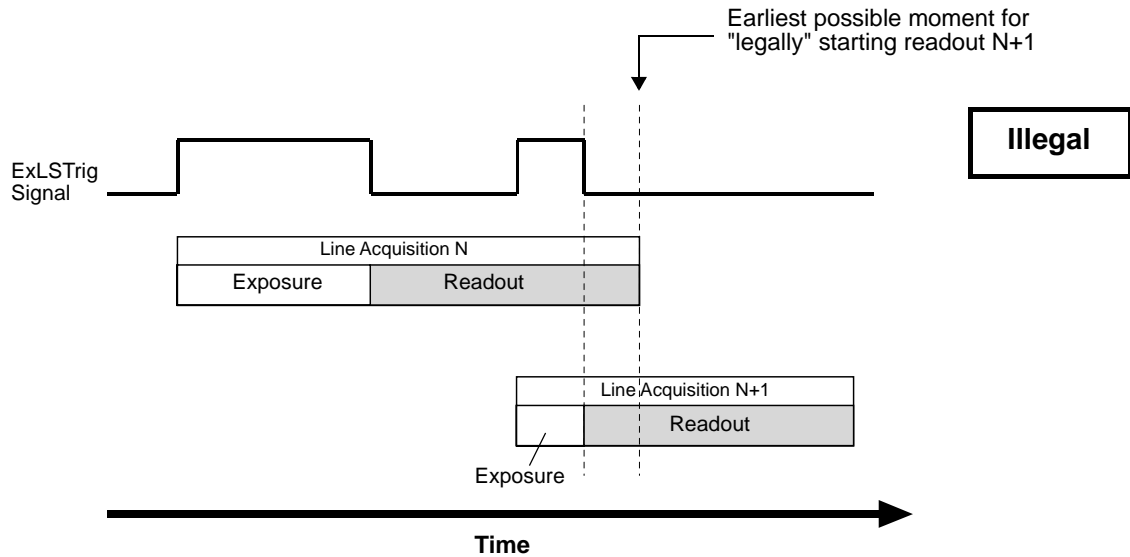
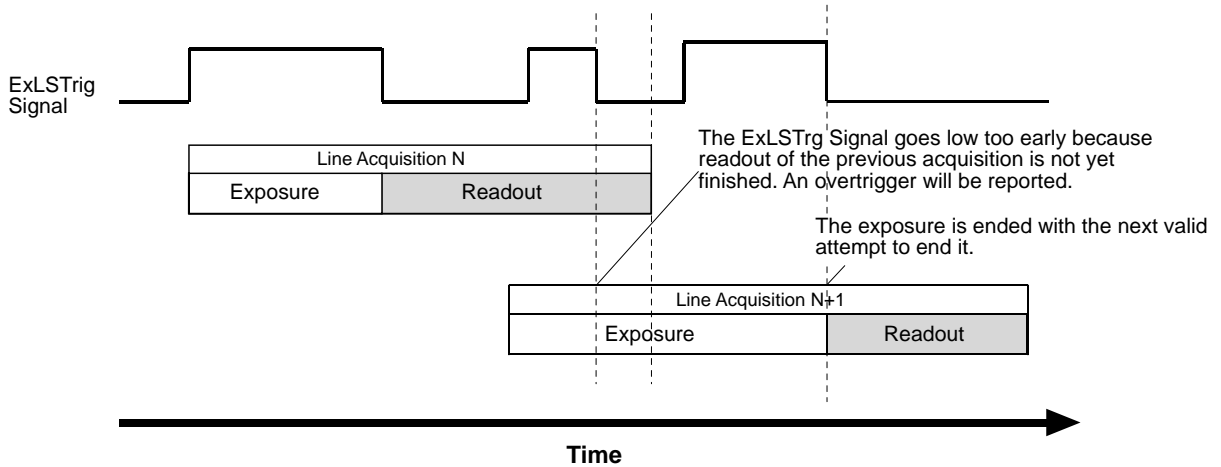

Fig. 43: Exposure N+1 Illegally Ends Before Readout of the Preceding Line Acquisition N Has Ended; Applies to Trigger Width Exposure Mode Only
Fig. 44: Extension of Exposure N+1 After the Illegal Attempt of Ending It Too Early; Applies to Trigger Width Exposure Mode Only
Certain attempts of triggering overlapped line acquisition are illegal and do not result in line acquisitions: When a line start trigger signal attempts an illegal line acquisition the trigger signal will be ignored and, accordingly, no line acquisition will be performed. In addition, the trigger signal will be reported as an overtrigger (see also Section 10.15 on page 209). Illegal triggering and impossible overlaps are shown in Fig. 42 on page 114 and Fig. 43 on page 115.
The exposure overhead (see Fig. 42 on page 114) is part of every exposure process. For simplicity, it is omitted from the other figures illustrating exposure and readout (see, for example, Fig. 43 on page 115).
- The line start trigger goes low to end the exposure for line acquisition N+1 before readout for acquisition N has ended (premature exposure end; see Fig. 43 on page 115). This would result in the illegal overlap of two readouts (in trigger width exposure mode only).
When the line start trigger has illegally gone low to end the exposure for line acquisition N+1 before readout for acquisition N has ended (in trigger width exposure mode; see Fig. 43), the camera will behave as shown in Fig. 44: The camera will extend the exposure and end it when the next valid trigger for ending exposure occurs.